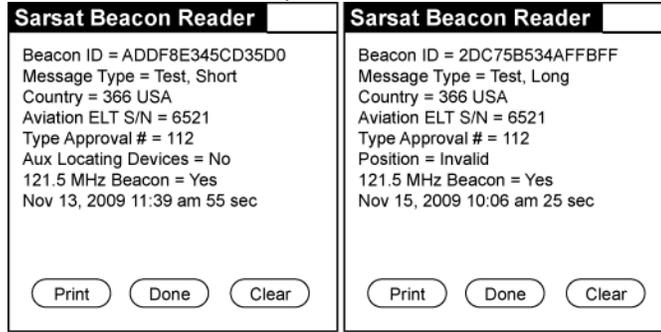

Figure 9 Short & Long 406 MHz Message Examples
- 3) Perform a self-test by placing the control switch in the “SELF-TEST” position. When the LED blinks once, release the switch. Example results are shown in Figure 9. Actual messages will vary depending on the protocol and information programmed into the ELT.